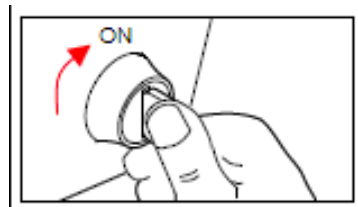

Figure 19
**DO NOT** start the engine. (Figure 19)